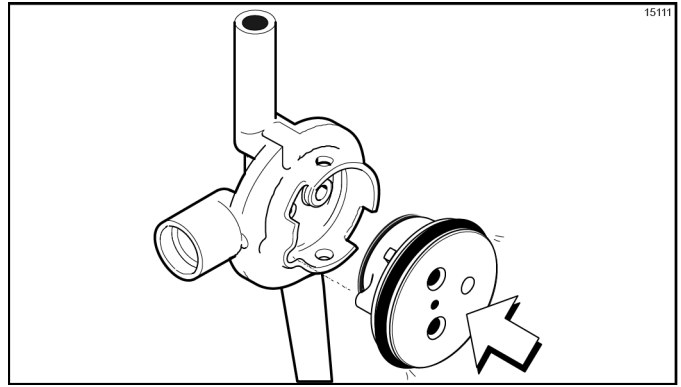

Figure 6-36
7. Insert the valve body cap into the hole in the mix inlet adapter. (See Figure 6-36.)